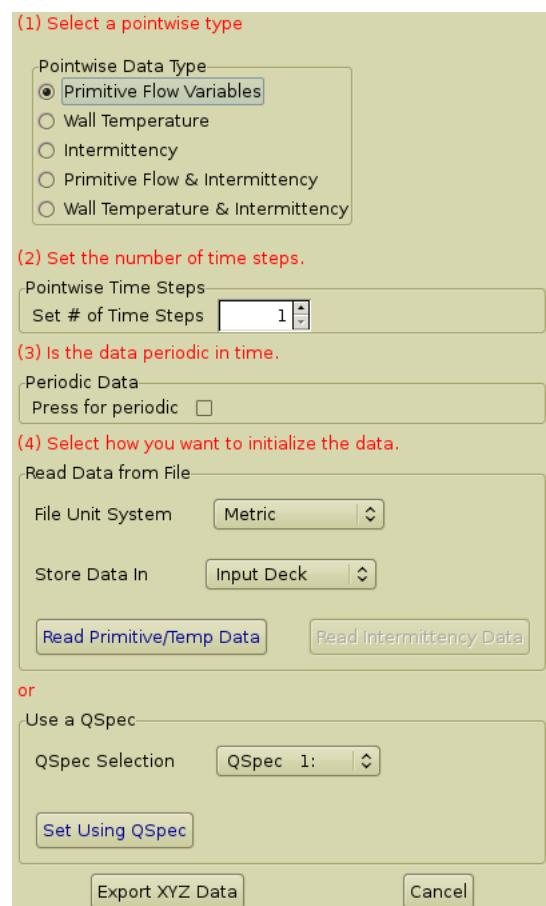

Figure 10.6: To create a new pointwise data set, press the **New** button and this window will appear. Follow the four steps to create the pointwise data.
2. Press the **New** button. Pressing the **New** button will bring up a window similar to the one shown in Fig. 10.6 on pg. 156. If a pointwise data set for a surface already exists, you will not be able to create a new data set. In this case, the user must edit the existing pointwise data or delete (cut) it.
While the new pointwise data set window is opened (see Fig. 10.6 on pg. 156), the user may export the X, Y, Z face center values from the surface using the **Export XYZ Data** button. This information can sometimes be helpful if the user needs to know the face center location of each face or the order in which data is imported.